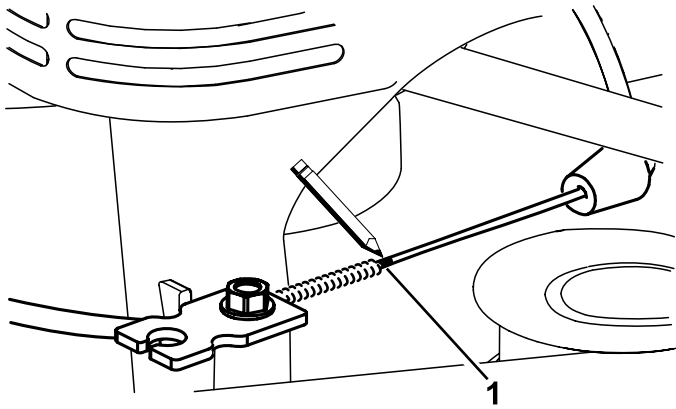
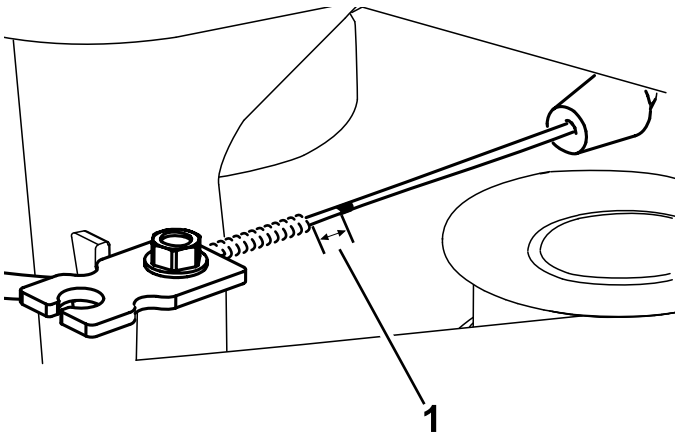

Figure 41
Figure 42
7. Mark the brake cable (Figure 41), then adjust the jacket until there is approximately 11 mm (7/16 inch) of slack (Figure 42).